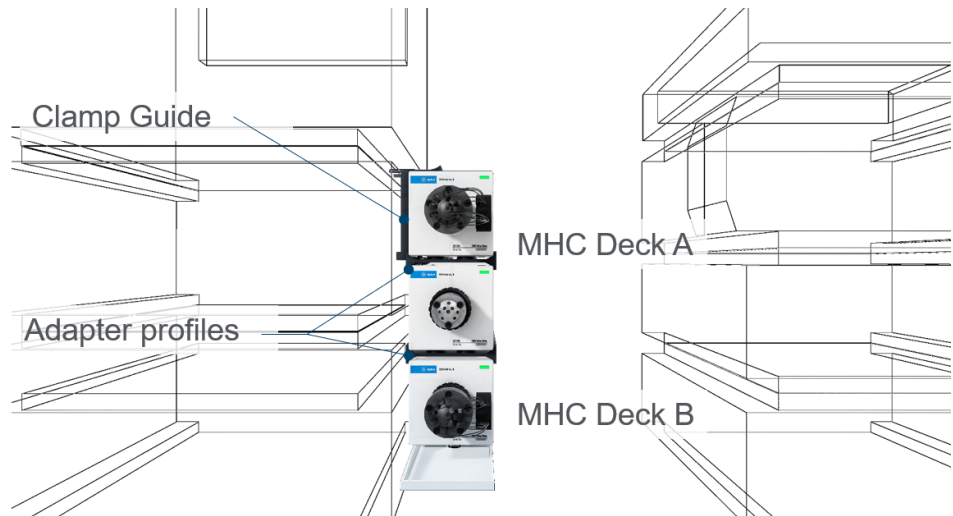

Figure 25 Schematic of the installation and attachments of the 2D-LC valve and optionally the MHC decks.
- 4 Attach the adapter-profile on each of the other external valve drives and mount them according to the positions shown in Figure 25 on page 61.